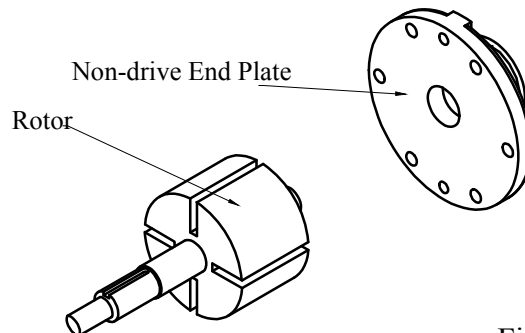

Fig. 3
7. Draw out the rotor and remove non-drive end plate. Refer to fig. 3.